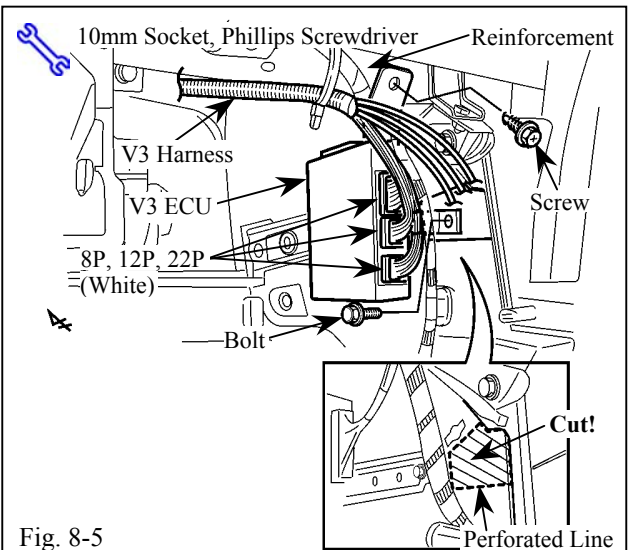

Fig. 8-5
- (e) Locate the perforated line in the right side of the glove box area, then cut off the carpet. (Fig. 8-5)
- (f) Connect the V3 harness' white 8P, white 12P, and white 22P connectors to the V3 ECU. (Fig. 8-5)
- (g) Temporarily install the V3 ECU bracket to the vehicle's body in the glove box area with one bolt supplied in the kit. (Fig. 8-5)
- (1) Do not tighten the bolt yet.
- (h) Using the screw supplied in the kit, secure the upper portion of the V3 ECU bracket to the reinforcement, then tighten the bolt. (Fig. 8-5)
- (1) Verify the screw and bolt are tightened and secured.